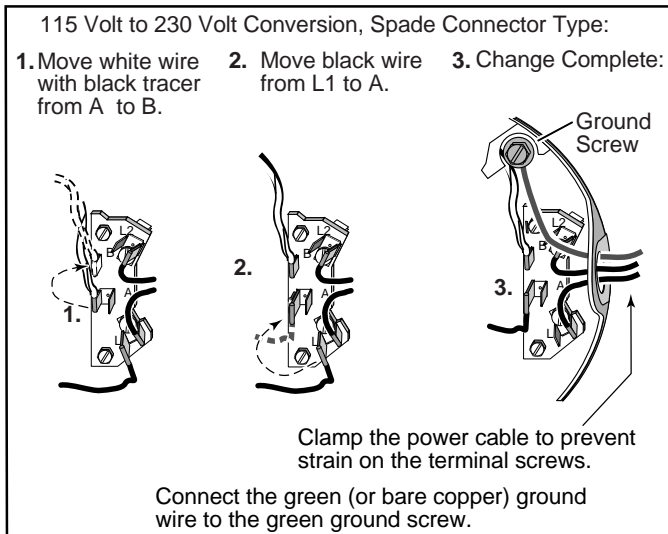

Figure 5: Motor wiring connection, Spade Connector
To Convert 115 Volts to 230 Volts, Spade connector type (see Figure 5).
3. Connect the green (or bare copper) ground wire to the green ground screw first (see Figure 5). Use a solid copper wire at least as large as the power supply wires.
1. Connect ground wire first. Connect the ground first, then to green grounding terminal provided under motor canopy (see Figure 5) identified as GRD. Make ground connection to this terminal. **Do not** connect motor to electrical power supply until unit is permanently grounded; otherwise serious or fatal electrical shock hazard may be caused.